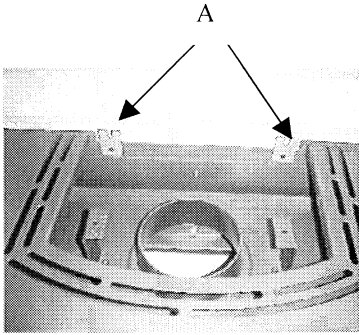

Fig 1
- Screw the heater to the wall if required, making sure that the lips with the slot are positioned upwards.(fig 1)